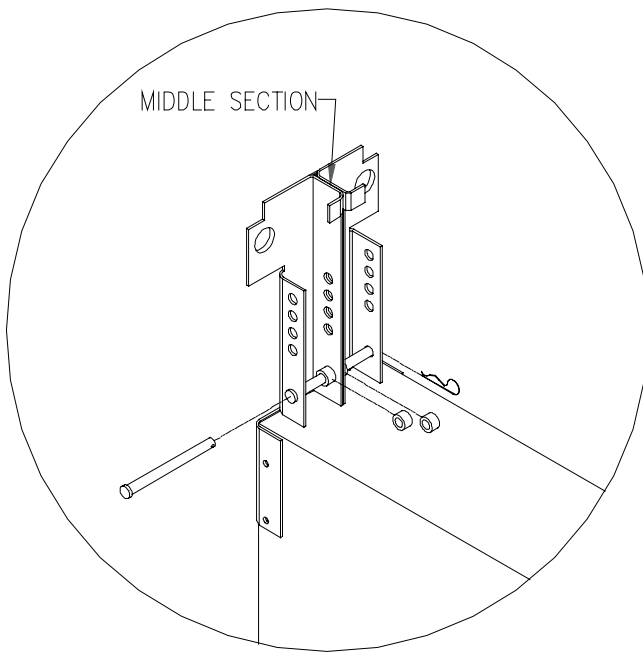

FIGURE 9
4. Starting at the common member side frame, insert the clevis pin in from one side of the common mounting bracket through both individual header side arms and out the other side the bracket. (See Figure 9) While inserting the pin, install the nylon spacers between the side arm (not shown) and middle section of the bracket. One spacer goes on each side of the middle section. The spacers are used only on the common member mounting brackets and are there to keep each header assembly on the common member side frame spaced apart from each other. Install the supplied bridge pin so it cannot slide back out. Do this for each common member and then for the standard side frames.